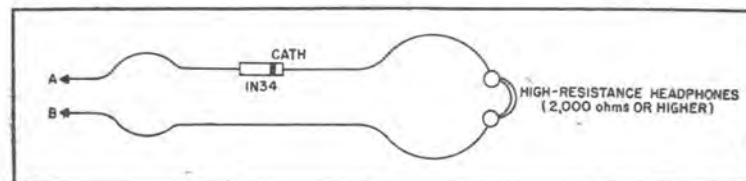

Figure 4. Circuit of Simple DC Polarity Checker.
- Figure 4. Crystal: 80v. WG7A } Westinghouse or CG6M B.T.H.
A crystal diode and headphones may be used to check dc polarity when no other means is available. The simple arrangement for making this test is shown in Figure 4. Headphones must be the wirewound, not crystal type. The crystal diode must be connected with the polarity shown in the diagram; that is, with the crystal anode terminal "leading." When point A is touched to the positive terminal of the voltage source and point B to the negative terminal, a